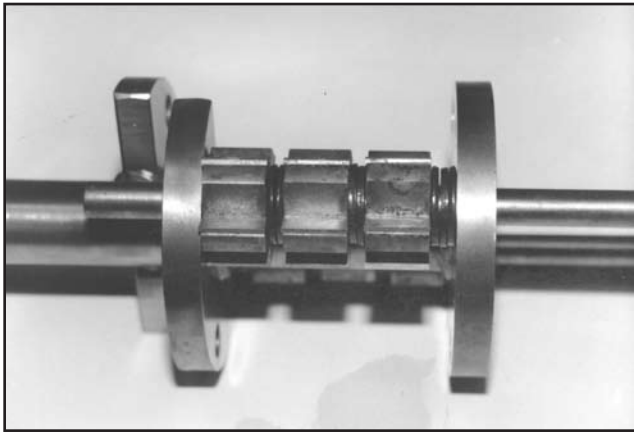

FIGURE 18
1) Install three spacer washers next to the outside side plate of the narrow section. Next, install a flail. Follow with two spacer washers and continue the sequence until the section is full. The tungsten carbide inserts must be installed to form a continuous planing surface. FIGURE 18.